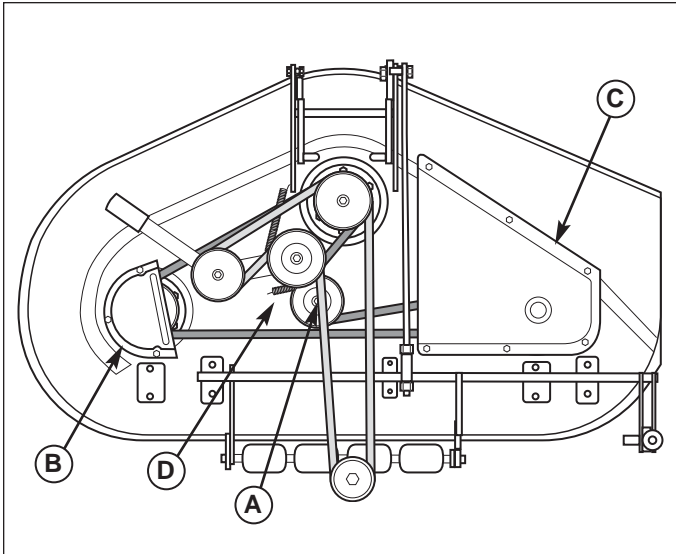

Figure 35. Mower Deck - 44" & 50" Mowers
3. Remove the capscrews securing the right-hand arbor cover (B, Figure 35). Remove three capscrews securing left-hand arbor cover (D).
4. Using a pair of locking pliers or a spring puller, remove the idler pulley spring (C, Figures 35) from slot in deck.
5. Loosen capscrew (A, Figure 35) securing the idler pulley to the bracket. The belt can now be slipped between the pulley and idler bracket hub.
7. Tighten the capscrew (A, Figure 35).
8. Reinstall spring (C) into its slot in mower deck.